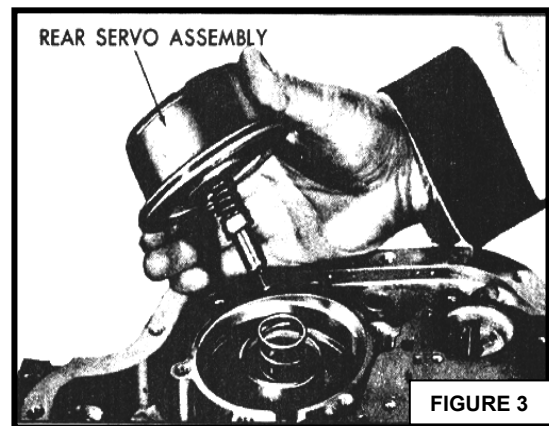
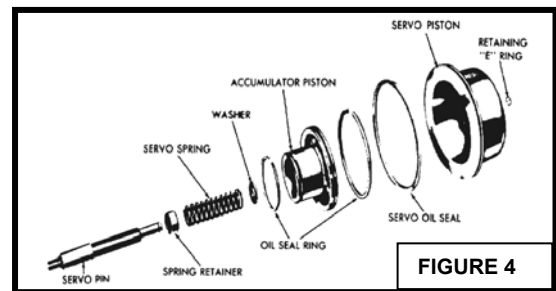

FIGURE 3
FIGURE 4
6. Remove existing valve body, separator plate, and gaskets. Discard **all** check balls. Remove rear servo assembly. *figure 3* Remove and discard oil-sealing rings from servo accumulator piston (Figure 4) and discard stock accumulator spring (Figure 4a). Install new accumulator spring furnished in kit and replace servo assembly and cover.